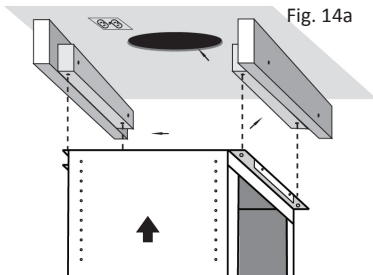

Fig. 14a
1. In the ceiling, install cross-braces between the ceiling joists (Figs. 14a and 14b).
1. Install a 110/120V receptacle on the ceiling within the dimensions of the decorative chimney (Fig. 14a). **NOTE** that the removal of the plug will void the warranty of the range hood. **Note:** All electrical wiring must be done by a qualified person and in accordance with all applicable codes and standards. This range hood must be properly grounded.